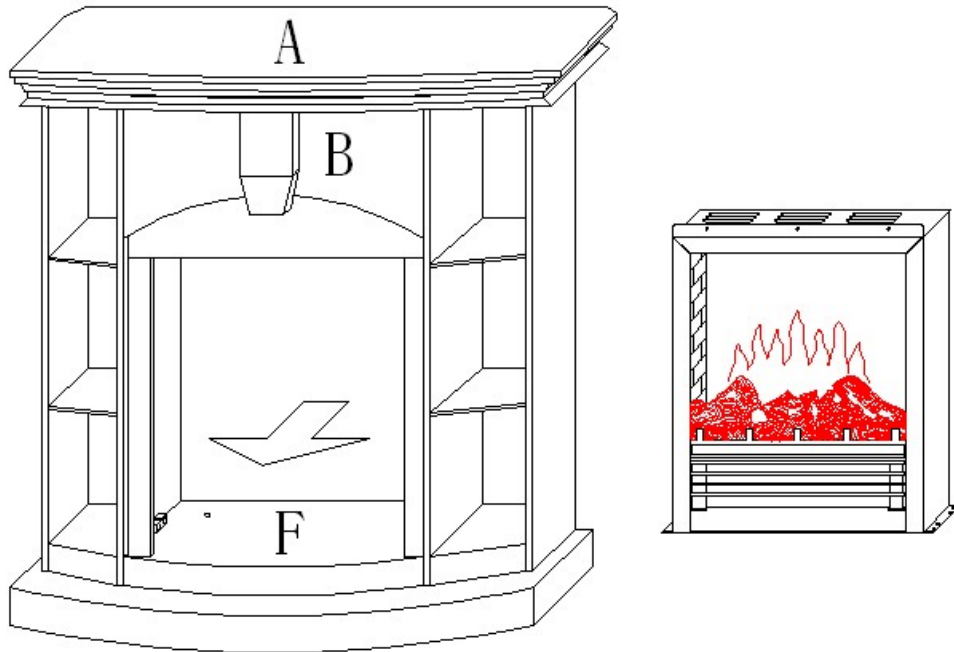

fig. 10
Step 10: Place the Electric Fireplace Heater Insert through the back of mantle with the Front of the heater facing the opening in the mantle. See Fig. 10 below.